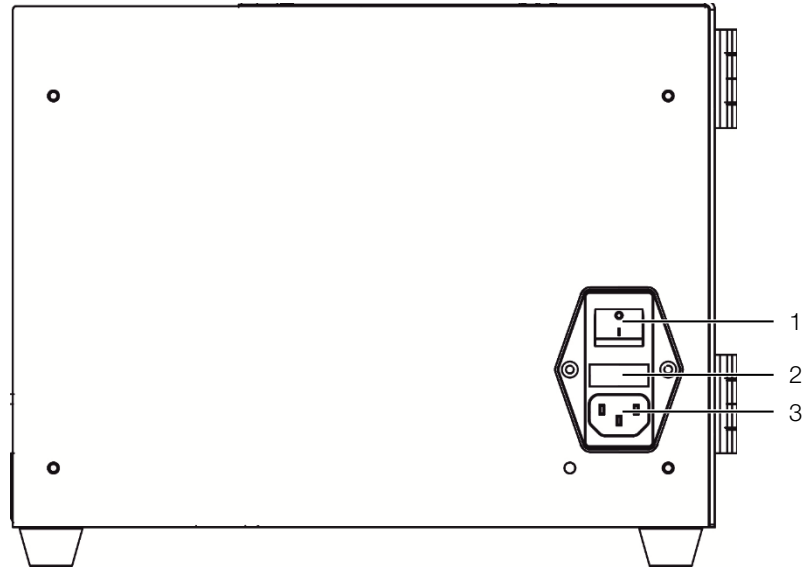

Fig. 3: Connection plate
- Connect the mains cable to the mains plug (see fig. 3, item 3) of the machine and to the power supply.
- Switch on the electrical crimping machine R8 E at the power switch (see fig. 3, item 1).